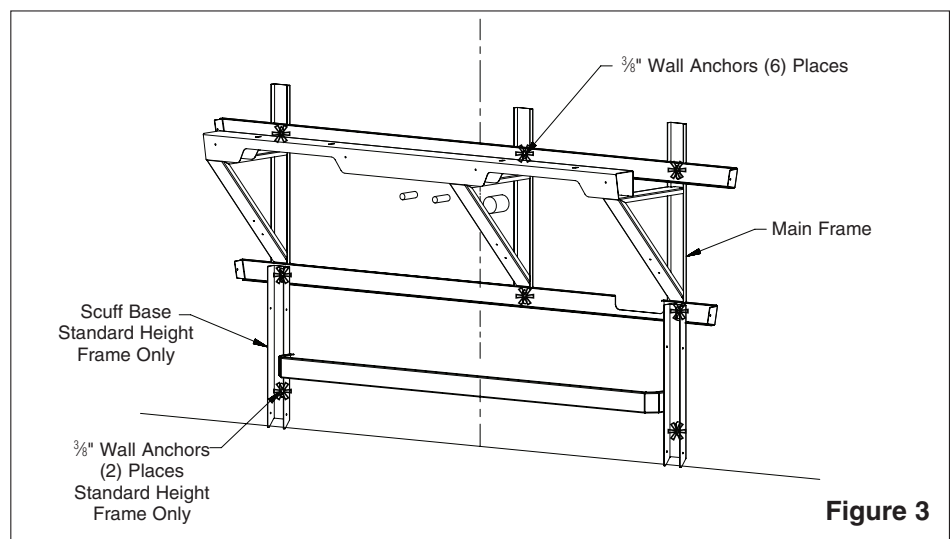

Figure 3
4. Once you have positioned the frame such that it is level (and resting on the floor, standard height frame only) and flat against the wall, use the 3/8" bolts and 1" min. O.D. washers to mount the frame to the wall (Figure 3).
5. When mounting the standard height frame, mount the scuff base to the wall at the same time (using two additional 3/8" bolts and washers mentioned in Step 1, procedure #3 on page 5) (see Figure 3).